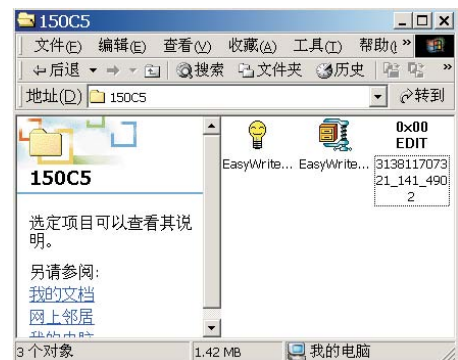

Fig. 6
Step 5 : Copy the 313811707321_141_4902.hex to D:\150C5 shown As Fig. 6.